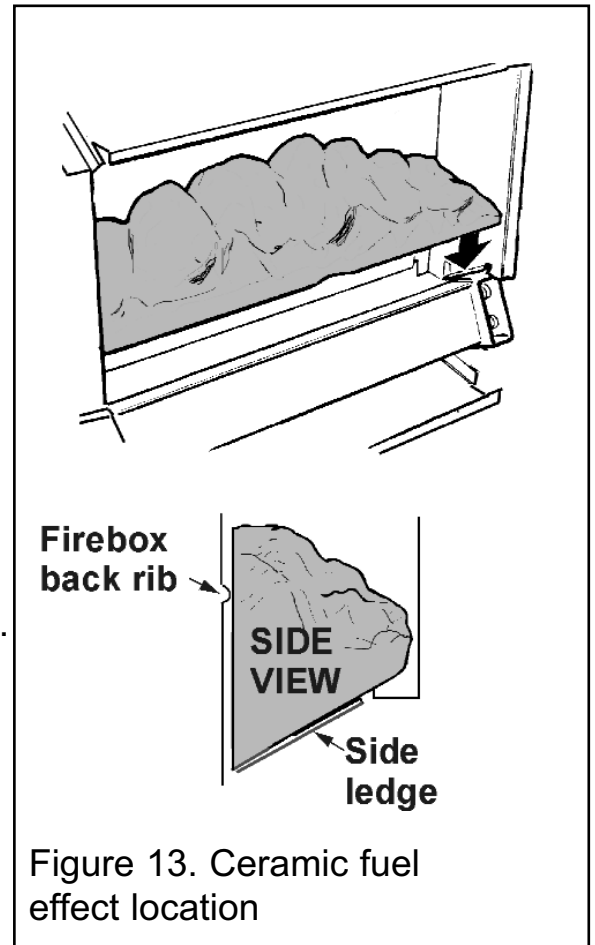

Figure 13. Ceramic fuel effect location
1. Place the ceramic fuel effect in position. Make sure that it rests on the ledges at the sides of the firebox and that its back face is touching the horizontal rib at the back of the firebox (See figure 13).
3. Replace in the reverse order. When replacing, make sure that the ceramic fuel effect rests on the ledges at the sides of the firebox and that its back face is touching the horizontal rib at the back of the firebox. See figure 13 in the installation section.